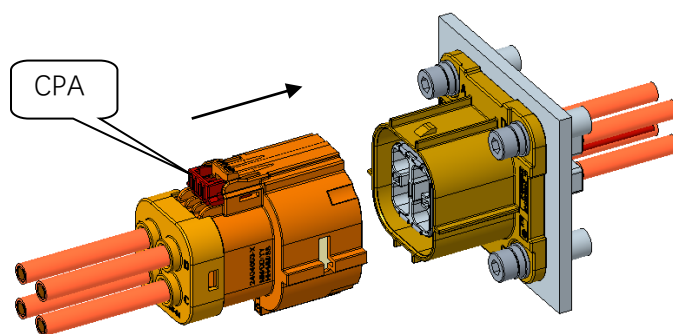

Figure 8
1. Align the plug connector and header connector as shown in Figure 8.
如图 8 所示，公母端连接器对齐。